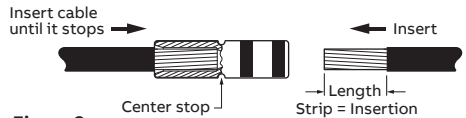

Figure 2
4. Insert cable into connector until it stops (Figure 2). The insertion length will approximate the stripped length of cable.